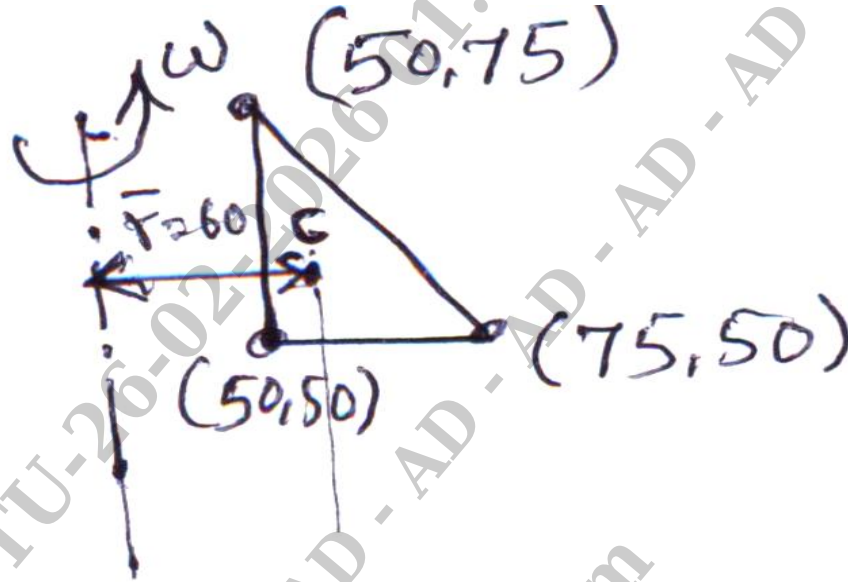

Fig. Q.9 (b)
- b. For the element of an axisymmetric body rotating with a constant angular velocity $W = 1000 \text{ rev/min}$ as shown in fig. Q. 9 (b). Determine the body force vector. Include the weight of the material. $\rho = 7850 \text{ kg/m}^3$.